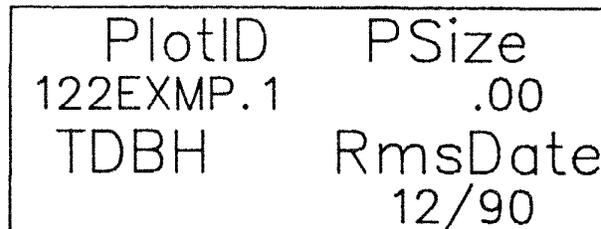

Figure 4.—The correct form of the plot identification screen after the information is entered into the Polycorder.
- 2-4 Your Polycorder screen should now be similar to Figure 4. If so, press <ESC> to return to the Main Menu. You are now finished specifying the minimal plot identification information.